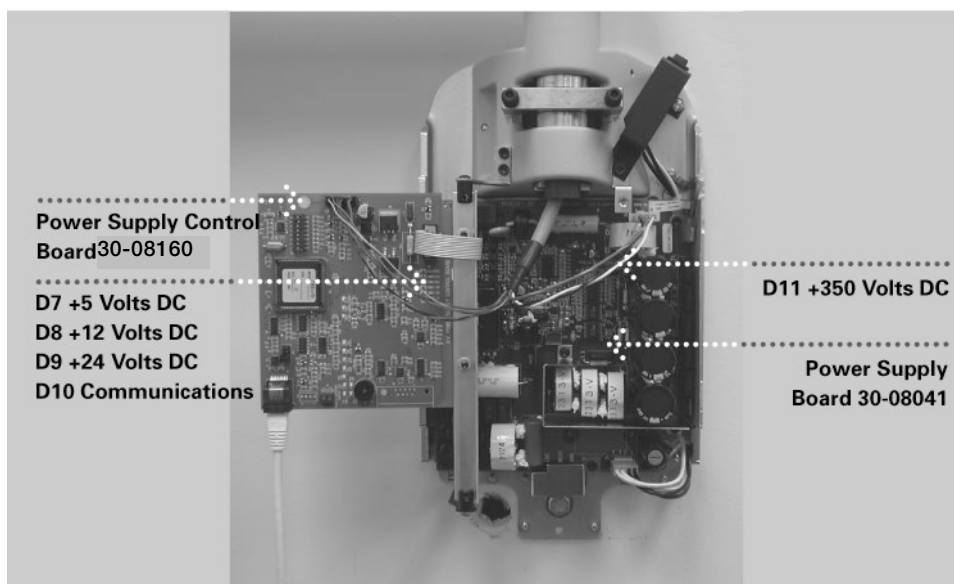

Figure 34
1. On Power Supply Board 30-08041, shown in *Figure 34*, verify that LED D11 is illuminated. The illuminated LED verifies that appropriate supply voltages are present.
2. On the Power Supply Control Board 30-08160, shown in *Figure 34*, verify that LEDs D7 (+5VDC), D8 (+12VDC) and D9 (+24VDC) are illuminated and LED D10 is flashing. Each illuminated LED verifies that appropriate supply voltages are present. If the LEDs are not illuminated, refer to the “No Operator Display but Power Switch is On” procedure in the Troubleshooting on page 75 of this manual.